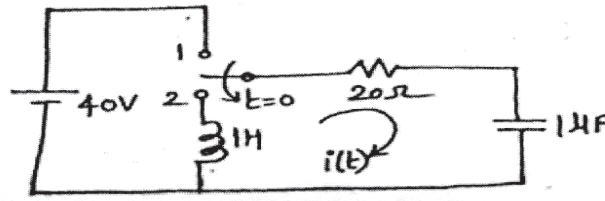

Fig. 8
- c) In the network shown in Fig. 8, switch is moved from position 1 to 2 at $t = 0$. Find expression for $i(t)$ by Laplace Transform approach. [6]